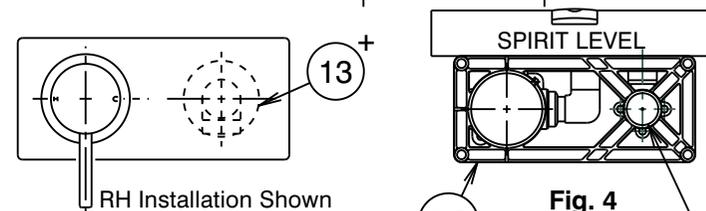

Fig. 2
- 1) Determine if outlet (13+) is to be positioned to the right or the left of the mixer body (12) when installed (Fig 2.). Fit mixer body (12) onto a suitable mounting plate or noggin in the wall and secure using screws through the holes in its base. When facing the mixer, the connections should be as follows :